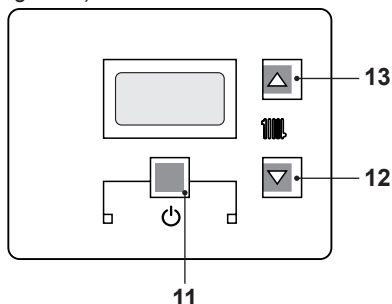
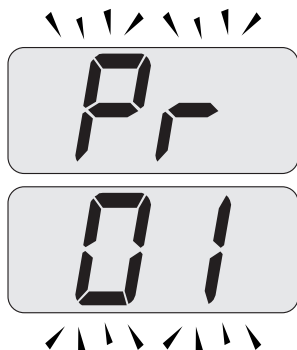

Fig. 7.50
Fig. 7.51
- Enter the "programming mode" by pressing keys 11 - 12 - 13 (Fig. 7.50) for 10 seconds at the same time until the letters **Pr** that alternate with code **01** are displayed on the LCD display, indicating that "parameter 01" (Fig. 7.51) has been activated.
- Press keys 11 and 13 (Fig. 7.50) at the same time until the value of parameter 06 (40=Advance Plus 16S ERP or 41=Advance Plus 25S ERP or 42=Advance Plus 30S ERP) is displayed on the LCD display (Fig. 7.52).
- Press keys 11 and 12 (Fig. 7.50) at the same
time to exit without changing the value (return to the parameters list Fig. 7.51).
- Press keys 11 - 12 - 13 (Fig. 7.50) at the same time for 10 seconds to exit the "programming mode".